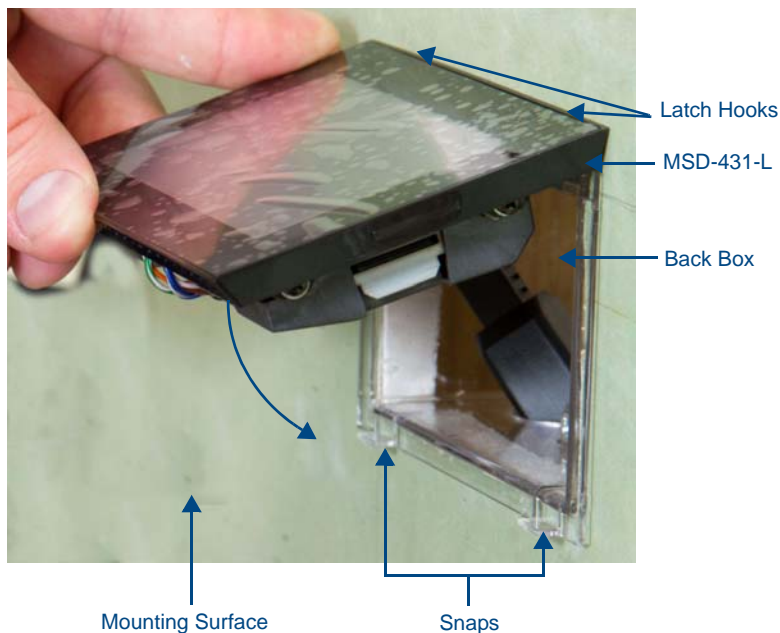

FIG. 12 Installing the MSD-431-L
- 11.** Latch the panel onto the top hooks on the back box and push it down onto the bottom snaps (FIG. 12). Press gently but firmly on the ends until the snaps “click” to lock it down.
The MSD-431-L is held in place to the back box via latch hooks and clips on the back box (FIG. 12), securing it to the mounting surface. In certain circumstances, such as firmware updates or other maintenance that requires accessing the device's Micro-USB ports the device may need to be removed from the back box. The clips that lock down the MSD-431-L's bottom edge may be unlatched in order to remove the device from the mounting surface.